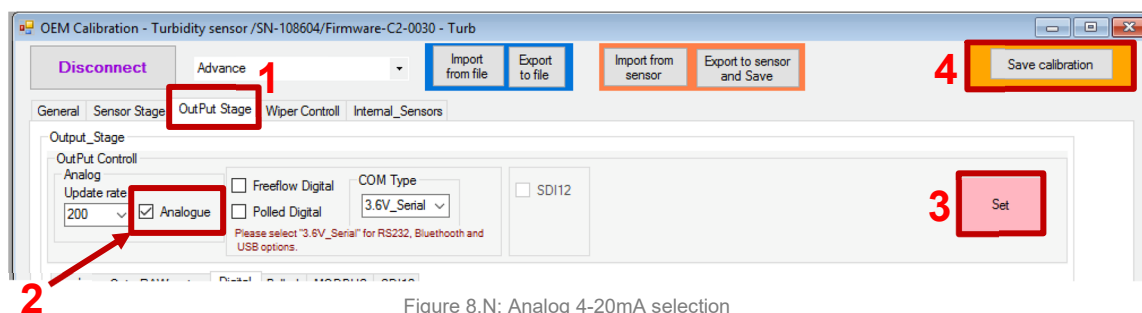

Figure 8.N: Analog 4-20mA selection
- Select "OutPut Stage" option (Figure 8.N: Analog 4-20mA selection#1).